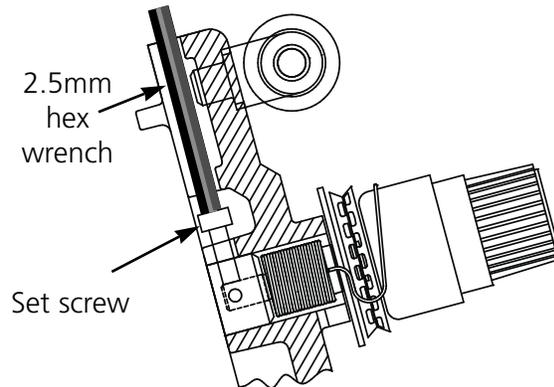

Figure 5-14
1. Slightly loosen the set screw through the top of the tensioner mounting bracket (see Figure 5-14). Use the 2.5mm hex wrench provided in the operator kit.